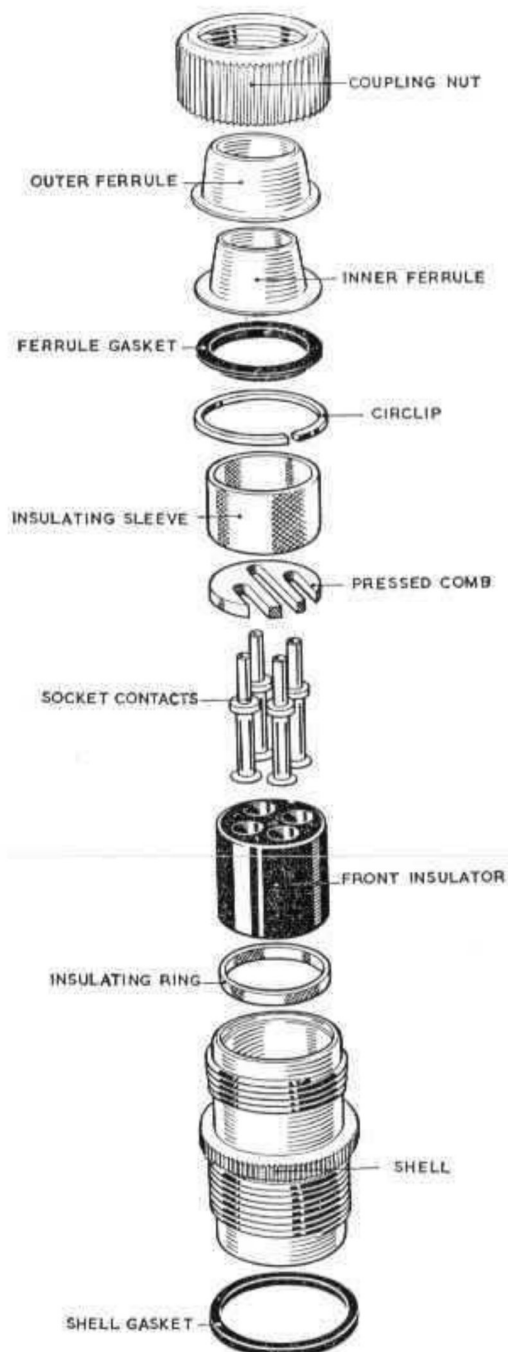

Fig. 7. Free unit (exploded) with coupling nut and inner and outer ferrules, vibration proof
16. Units at stage 4 (fig. 7 and 8) introduced vibration-proof socket contacts (suitable for soldering or crimping without the use of thimbles). A pressed comb replaces the comb insulator used at stage 3, making the unit suitable for use with arrangements which include 37A and 64A contacts. Wire locking holes are drilled in the coupling nut as an added precaution against vibration.
*Inner and outer ferrules (Table 31 and fig. 7)*